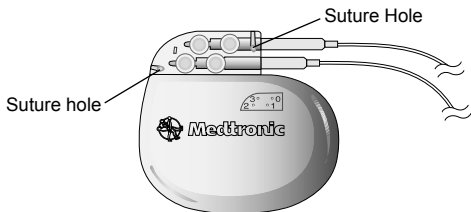

Figure 5. Securing the neurostimulator using both suture holes.
1. Secure the neurostimulator in the subcutaneous pocket using both suture holes in the connector block (Figure 5).